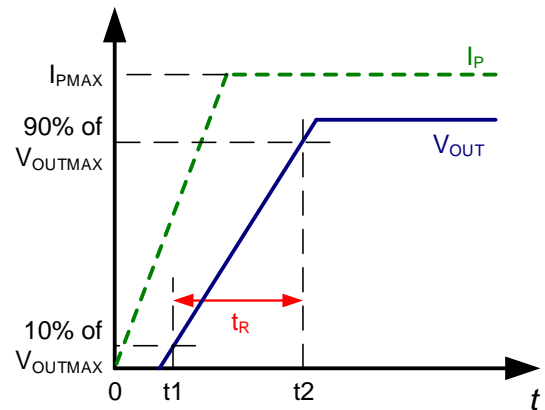

Figure 7: Rising Time (t_R)
2. t_2 : The sensor's V_{OUT} reaches 90% of its full-scale value (see Figure 7).